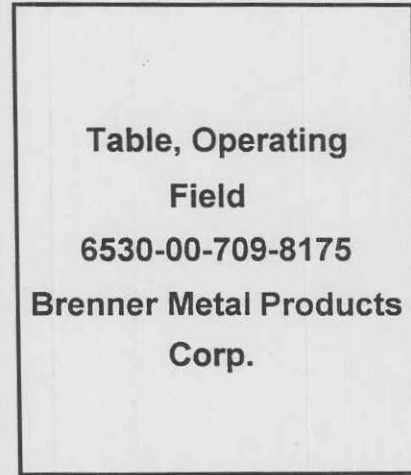

Figure 1-2. Manufacturer data plate.
- b. The manufacturer data plate (fig 1-2) is a 3 1/2-inch by 2 3/4-inch cast aluminum plate with 1/4-inch engraved letters located on the gear assembly cover.